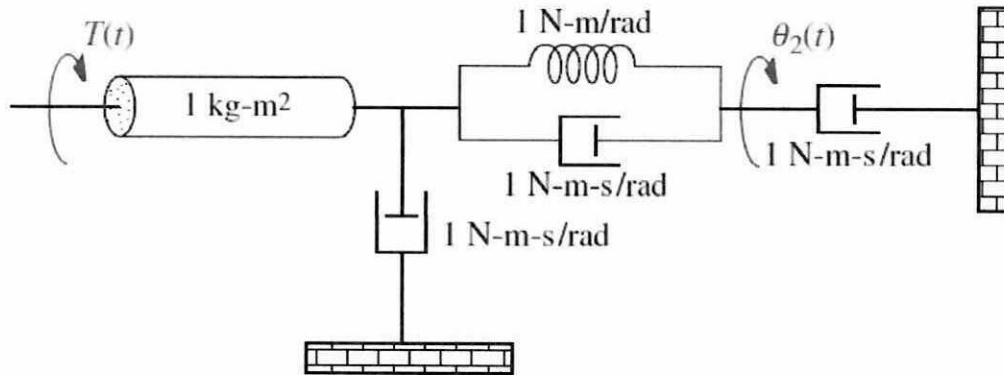

Figure Q3(a)
Q3 (a) **Figure Q3(a)** shows the rotational mechanical system that consists of mass, **three (3)** viscous dampers and spring.